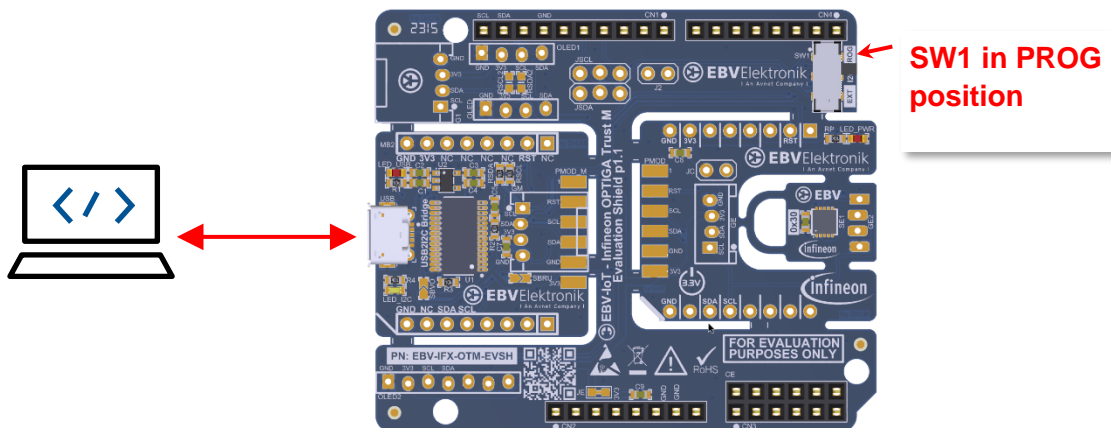

Figure 13: Connecting the OPTIGA shield to a PC
Connect the “EBV-IoT – Infineon OPTIGA Trust M Evaluation Shield” to a PC using micro USB cable (Type A / Micro B or Type C / Micro B). Both RED LEDs should be on as shown on Figure 13. SW1 switch should be in PROG position.
1. The shield switch “SW1” is in a position “EXT” → please put the switch “SW1” to position “PROG” as shown on *Figure 13: Connecting the OPTIGA shield to a PC*.